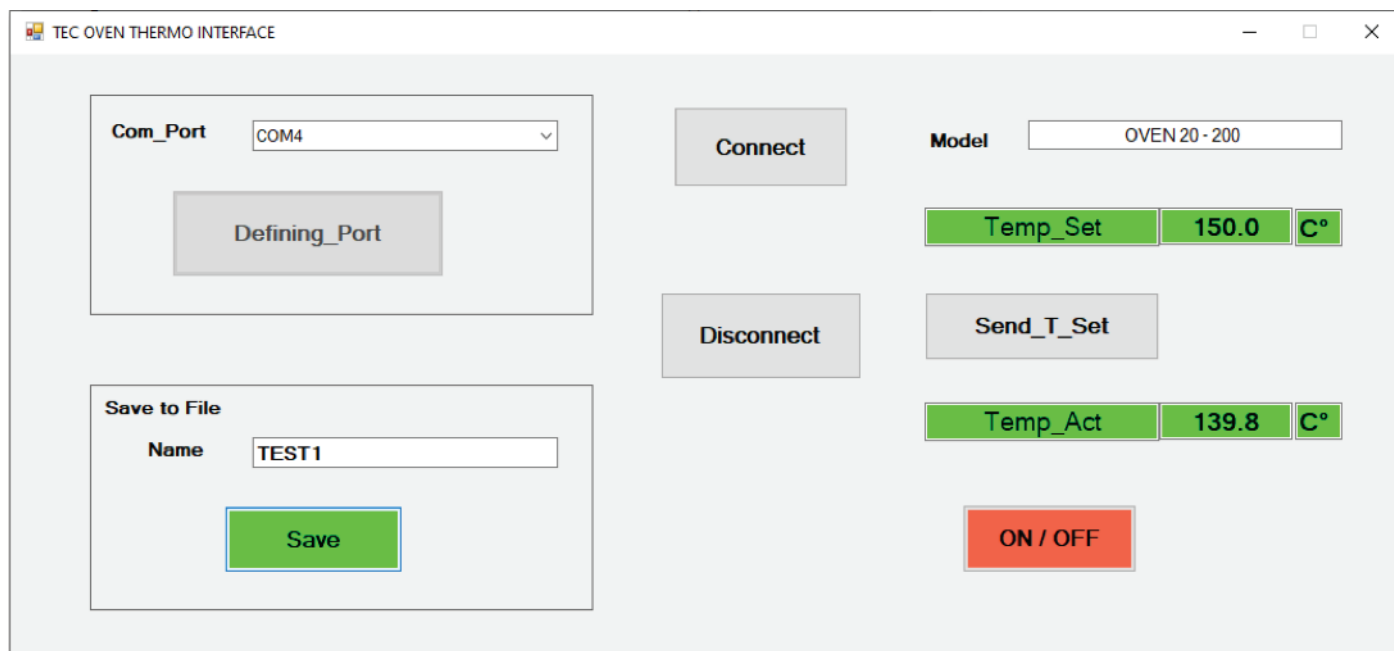

FIGURE 7. User Interface Software
- 'Save to File': to save current data of the temperature print in the widow 'Name' name of the file and click 'Save' button. (figure 7). It will start temperature file save process with time sampling rate 1.5 sec per point as **Name.txt** file. This file can be use at EXCEL or other programs.